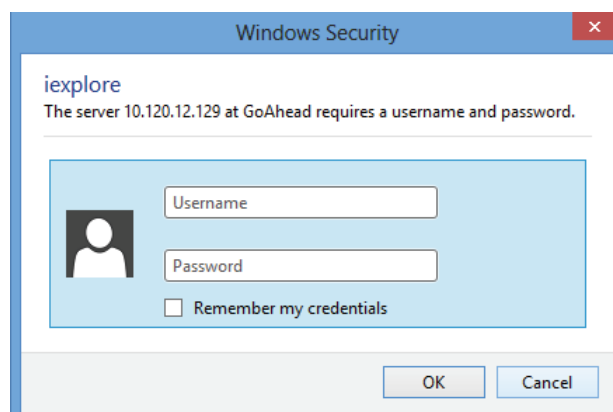

figure 37.7: Logon window
- 4 Click the *Continue* button to access the web interface. A screen similar to the one in figure 37.7 pops up.